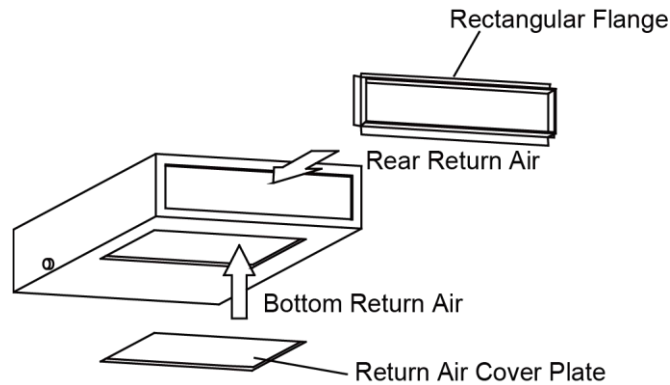

Fig 4.4.5
- (1) The default installation location of the rectangular flange is at the back and the return air cover plate is at the bottom, as shown in Fig 4.4.5.